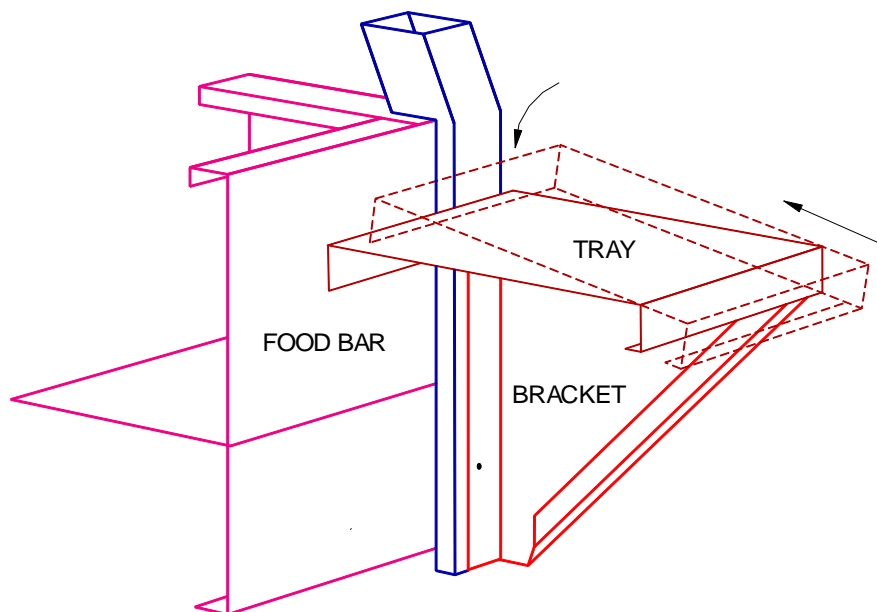

Figure 2 - Installing the Tray
5. Place the tray on top of the brackets. This is done by holding the tray in front of you lengthways and placing the front edge (the edge you're holding) over the outside of the brackets first, then lowering the rear of the tray down to rest on top of the brackets. Refer to Figure 2 below.